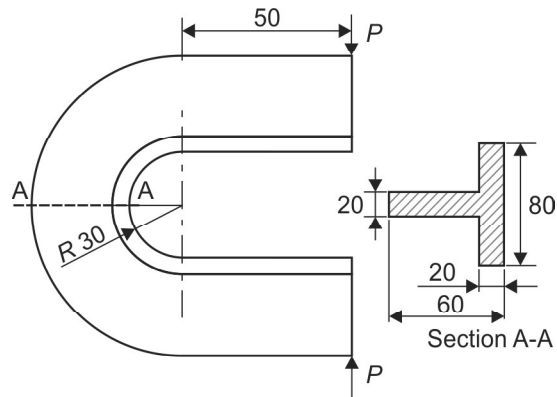

Fig. M1.1
- b. A machine member has a T-shaped cross-section and is loaded as shown in Fig. M1.1. If the allowable compressive stress is 50 MPa, determine the largest force ' P ' which may be applied to the member safely. (16 Marks)